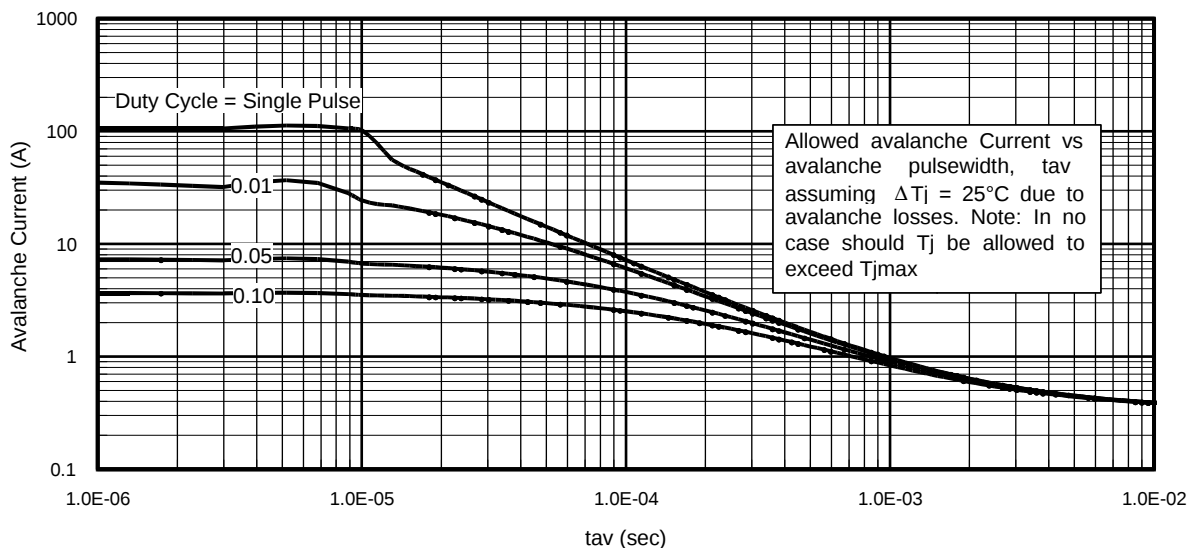

Fig 14. Typical Avalanche Current Vs. Pulsewidth
Notes on Repetitive Avalanche Curves , Figures 14, 15: (For further info, see AN-1005 at www.irf.com)
7. ΔT = Allowable rise in junction temperature, not to exceed T_{Jmax} (assumed as 25°C in Figure 14, 15).